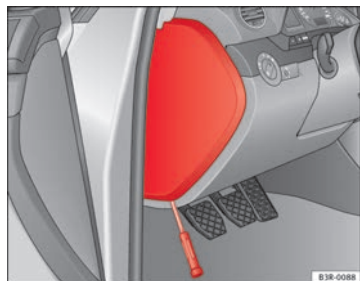

Fig. 185 Left side of dash panel: Fuse box cover
- Remove the fuse cover using a screwdriver ⇒ fig. 185.